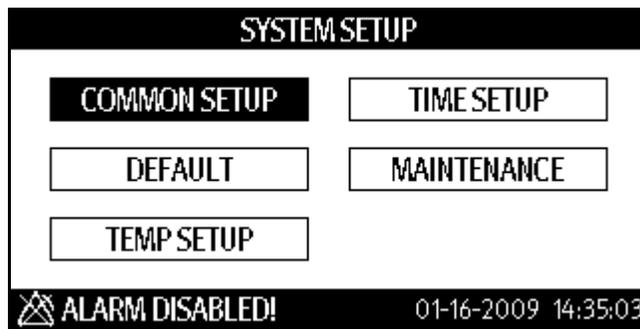
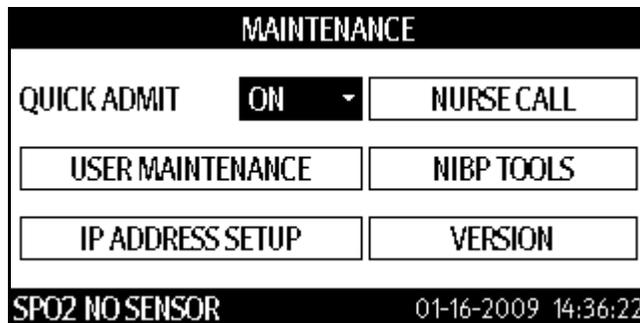

FIGURE 3-2 SYSTEM SETUP Dialog
FIGURE 3-5 MAINTENANCE dialog
1. Press  (12) to display the SYSTEM SETUP dialog as shown in FIGURE 3-2.
2. Press  (16) or  (19) to highlight **MAINTENANCE**.
3. Once **MAINTENANCE** is highlighted, press  (18) to display the MAINTENANCE dialog as shown in FIGURE 3-5.
NOTE: The **VERSION** and **IP ADDRESS SETUP** selections in the **MAINTENANCE** dialog (**FIGURE 3-5**) are used by service. See the **Service Manual**, part number **0070-10-0702**.